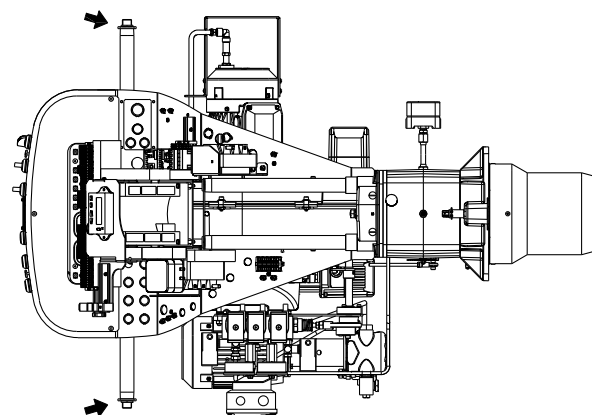

Fig. 10
- screw the two extension bars 1) on the pins 2)(Fig. 10);
The four burner lifting points are indicated in Fig. 10.